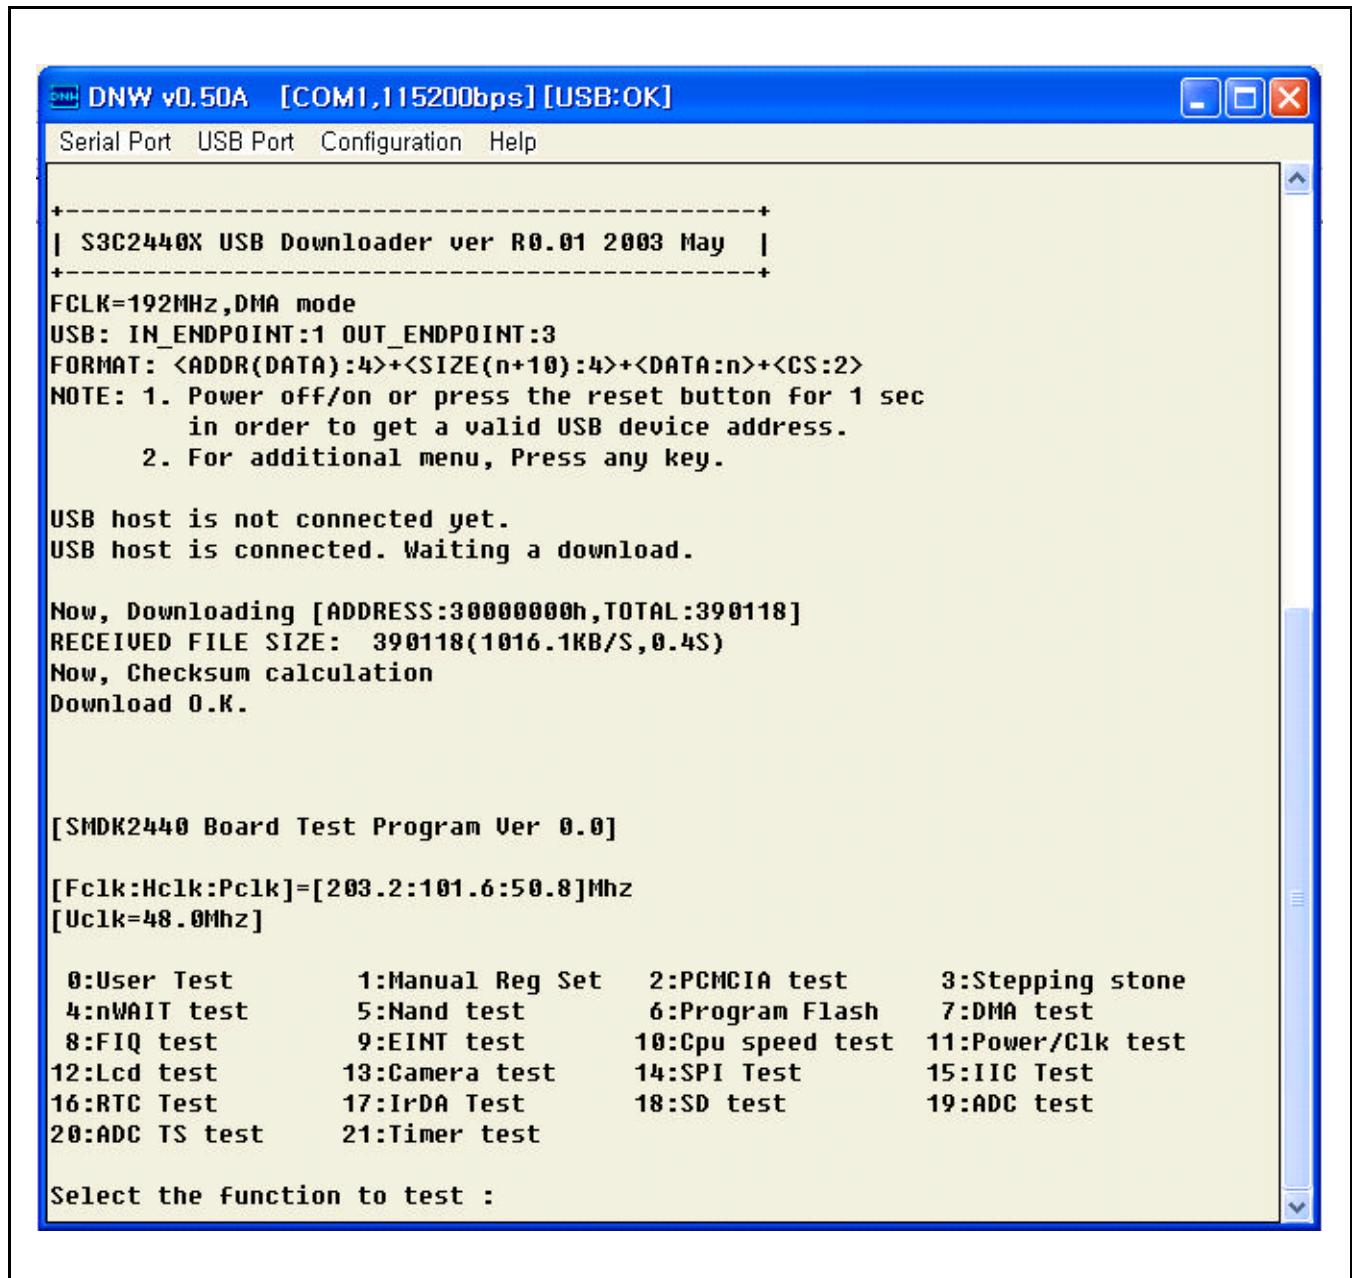

Figure 2-7. 2440TEST Execution After its Downloading through USB
2. Select 2440TEST.BIN (See Figure 2-7).